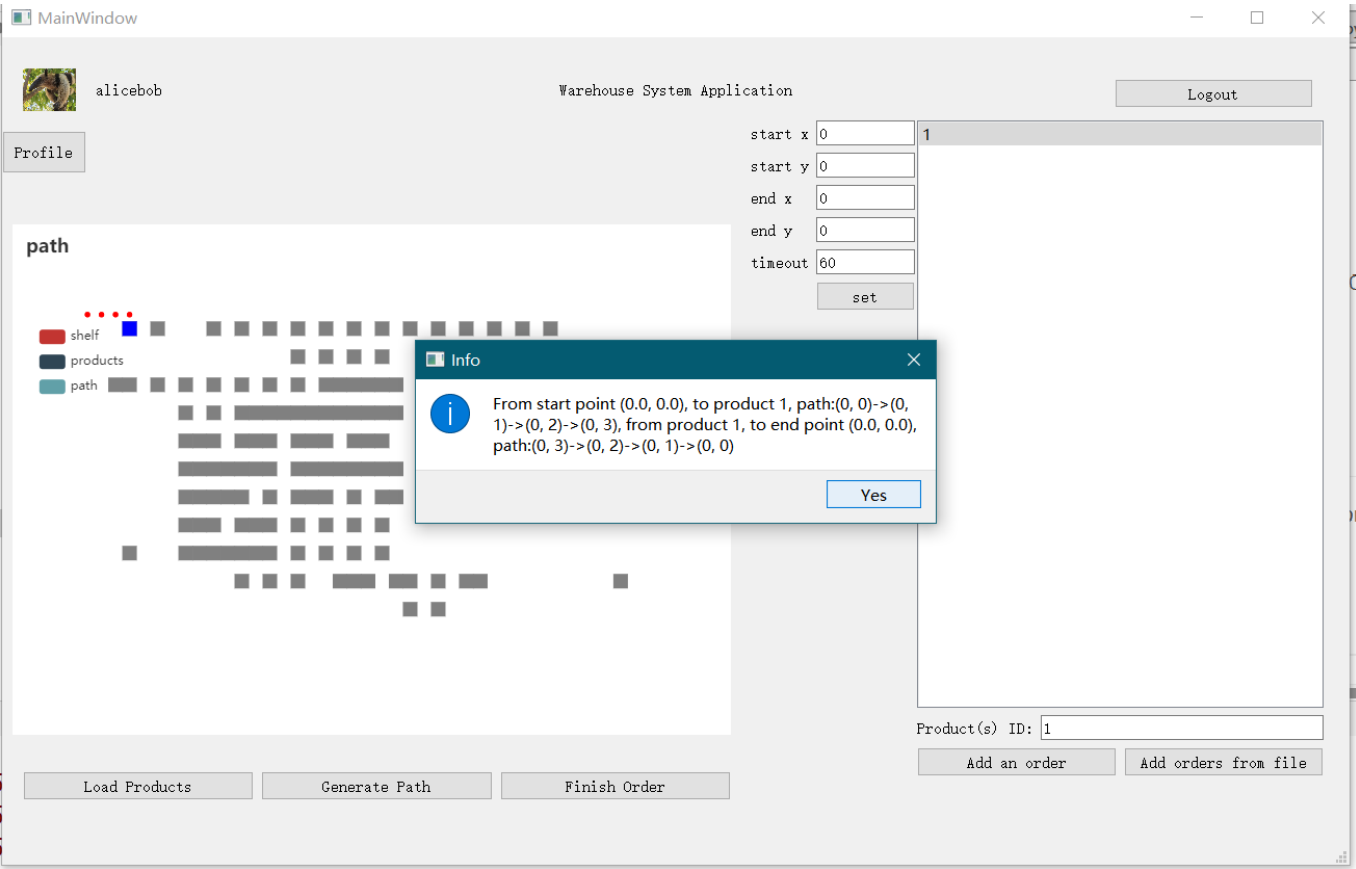

Figure 8 Generate path
2. Scenario 2: Workers have a limitation of products each time. From figure 8, you can see that in the personal setting, the worker can set the maximum number of products to deliver.